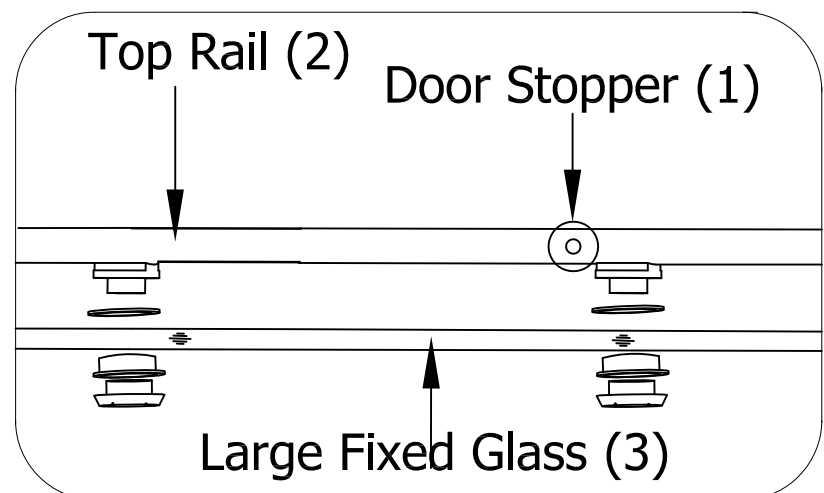

Fig. 4
4. Position the Top Rail (2) and Large Fixed Glass (3) as shown in Fig.4 and connect Large Fixed Glass (3) to Top Rail (2) following the assembly sequence shown in Fig.4. Note in Fig.4, one Door Stopper (1) should be positioned between mounting holes in Top Rail (2) before connecting Top Rail to Large Fixed Glass.